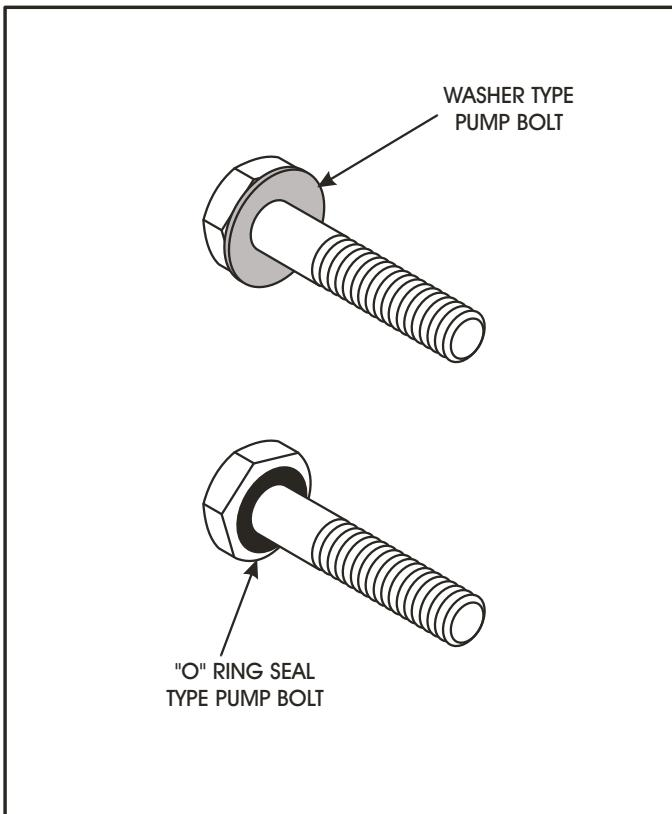

Figure 113
**Caution: There are two different types of the pump retaining bolts, one type that uses the fiber washer and one type that uses "O" ring seal as shown in Figure 113. You must use proper type of seal on the appropriate bolt.**